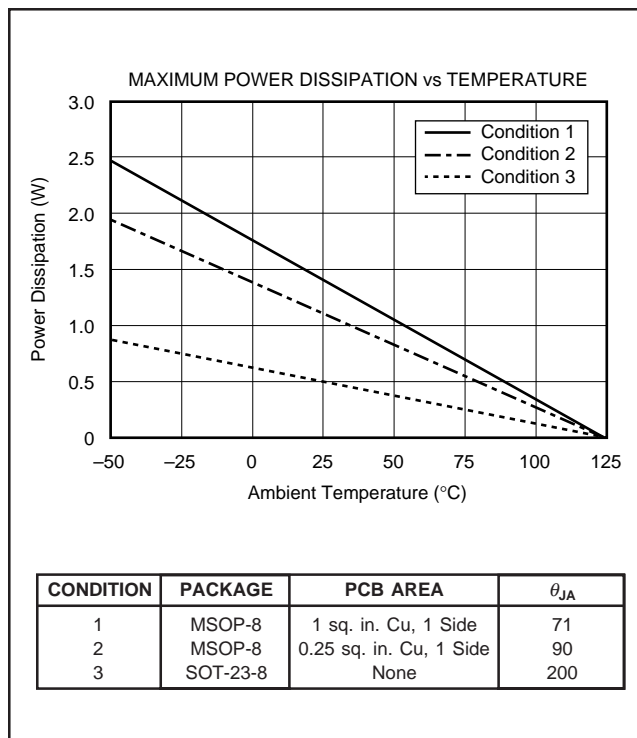
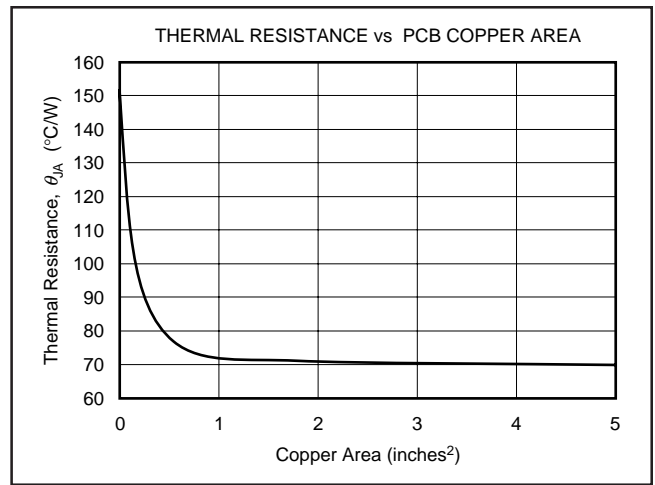

FIGURE 6. Maximum Power Dissipation versus Ambient Temperature for the Various Packages and PCB Heat Sink Configurations.
FIGURE 7. Thermal Resistance versus PCB Area for the MSOP-8.
(4) For $V_{ENABLE} > 6.5\text{V}$, see typical characteristic I_{ENABLE} vs V_{ENABLE} .
(5) The REG113 no longer regulates when $V_{IN} < V_{OUT} + V_{DROP(MAX)}$. In dropout, the impedance from V_{IN} to V_{OUT} is typically less than 1Ω at $T_J = +25^{\circ}\text{C}$.
(6) See Figure 7.
The REG113 is available in two different package configurations. The ability to remove heat from the die is different for each package type and, therefore, presents different considerations in the printed circuit board (PCB) layout. On the MSOP-8 package, leads 5 through 8 are fused to the lead frame and may be used to improve the thermal performance of the package. The PCB area around the device that is free of other components moves the heat from the device to the ambient air. Although it is difficult or impossible to quantify all of the variables in a thermal design of this type, performance data for several simplified configurations are shown in Figure 6. In all cases the PCB copper area is bare copper, free of solder resist mask, and not solder plated. All examples are for 1-ounce copper and in the case of the MSOP-8, the copper area is connected to fused leads 5 to 8. See Figure 7 for thermal resistance for varying areas of copper. Using heavier copper can increase the effectiveness in removing the heat from the device. In those examples where there is copper on both sides of the PCB, no connection has been provided between the two sides. The addition of plated through holes will improve the heat sink effectiveness.